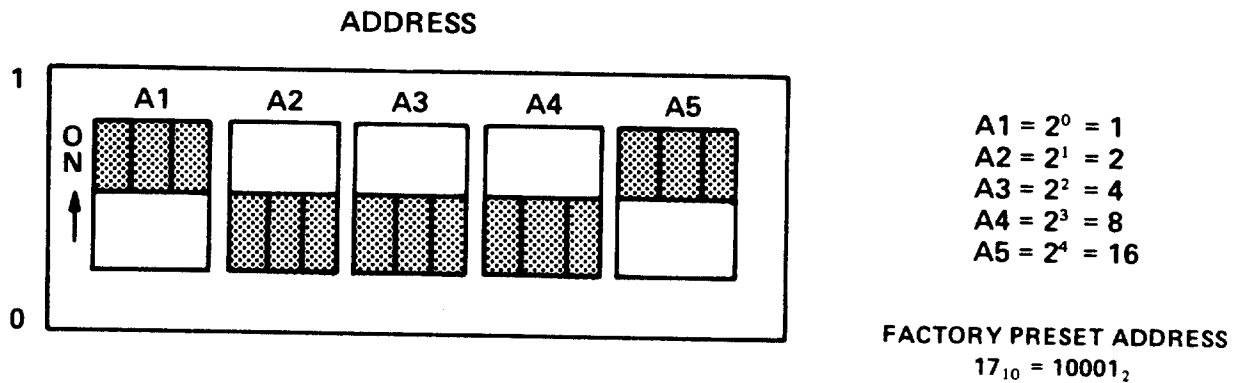

Figure 1-11. Quasi-Peak Address Selection
6. Set the quasi-peak address to 17, as shown in Figure 1-11.